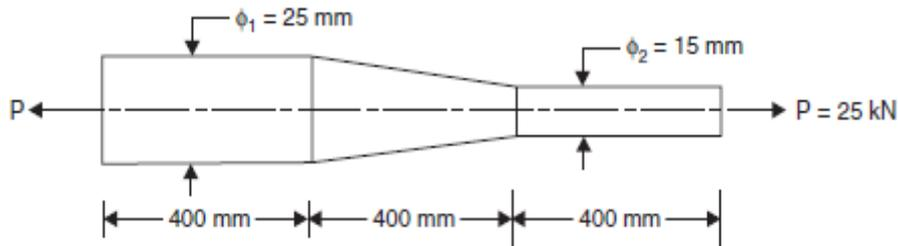

Figure 4
d) Find the extension of the bar shown in Fig.4 under an axial load of 25 kN.